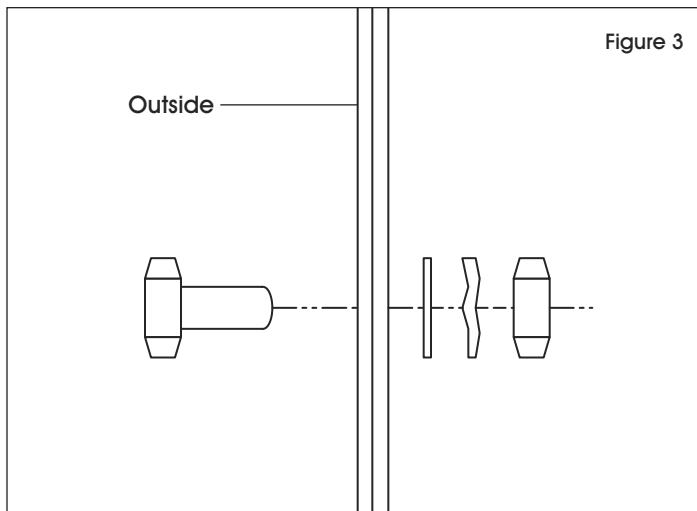

Figure 3
3. Place legs upside down on floor. Position shelf on legs. Insert socket screws through shelf and each leg from outside (7 places per leg). Tighten screws with flat washers, lock washers and nuts. Use a socket wrench. (See Figure 3)